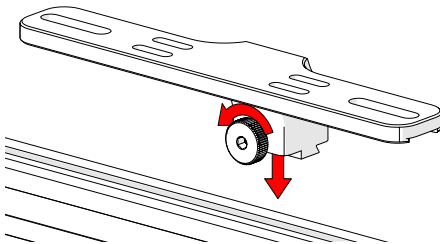

Fig. 68 - Loosen knob and mount to dovetail groove
1. Loosen the knob and align dovetail nut with the dovetail groove (Fig. 68).